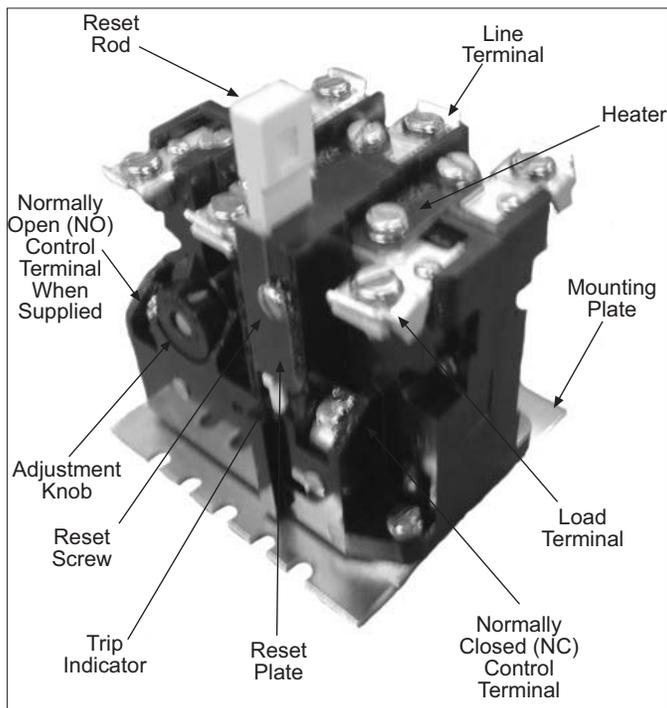

Fig. 4 Type A Block Overload Relay
**TYPE A OVERLOAD RELAY (See Figure 4)**